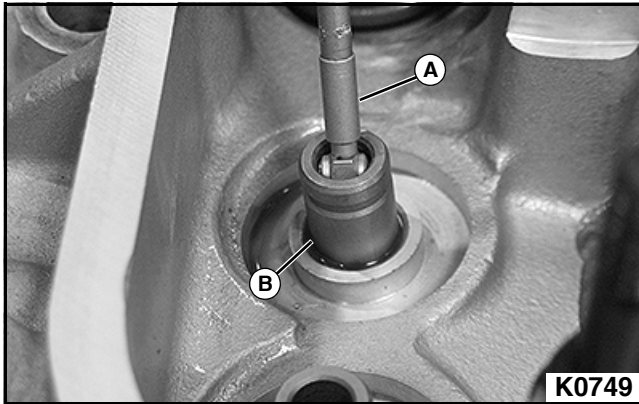

Figure 3-152
1. Using a bore gauge (A), measure the valve guide bore (B) in the cylinder head to determine valve guide size. **See Figure 3-152.**